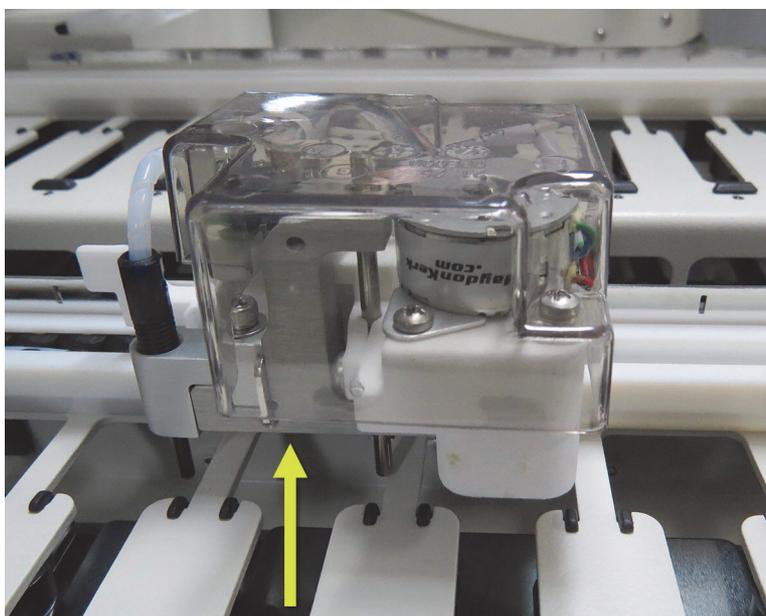

Figure 22: Lift the dispense block indicated and push the bulk fluid robot along the guide rail of the slide staining assembly
2. Gently lift the dispense block on the bulk fluid robot (see Figure 22) until the probe clears the top plate.